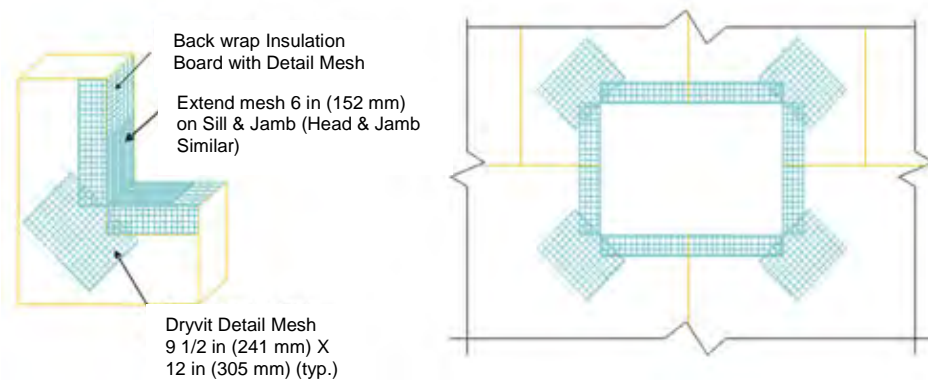

Figure 21
19. Corners of all openings such as windows, doors, mechanical equipment and all penetrations shall be reinforced with Detail Mesh placed diagonally to the opening as illustrated in Figure 21.